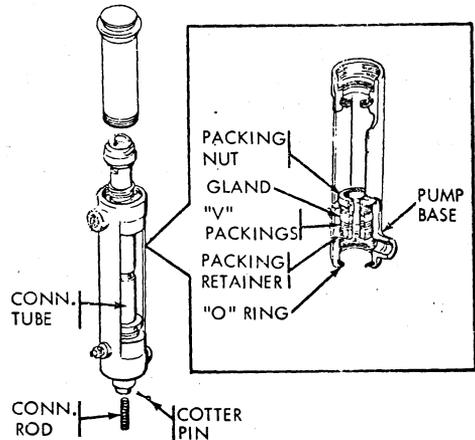

FIGURE 22
- (b) Remove air cylinder from base, loosen packing nut, and carefully pull connecting tube from top of base (see Figure 22).